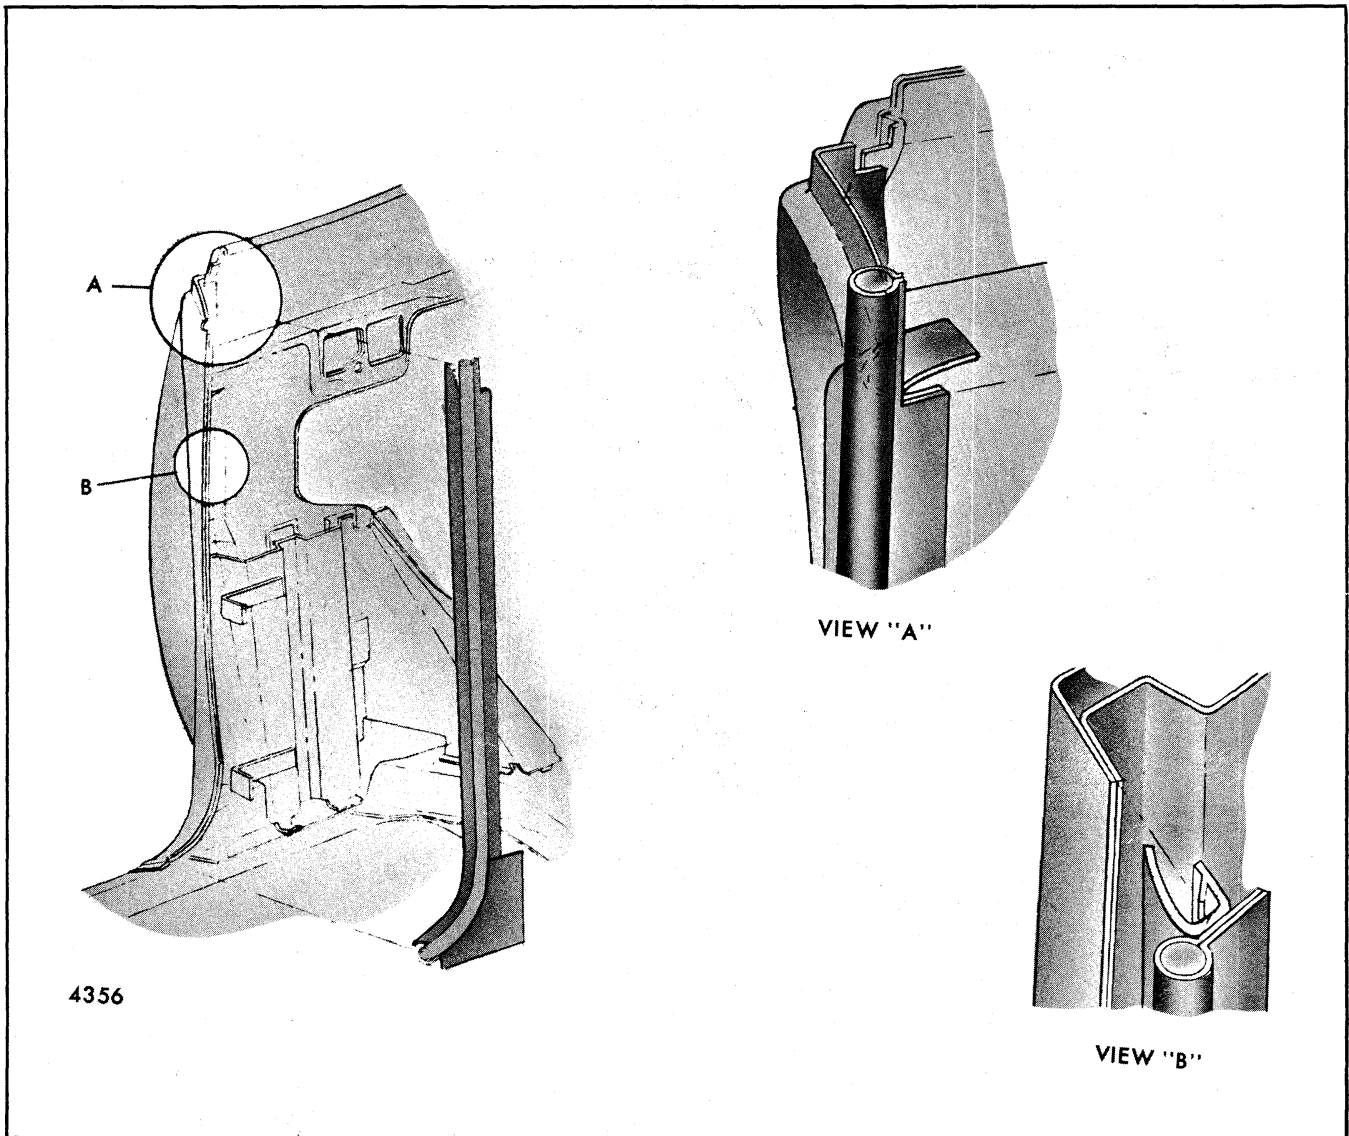

Fig. 6-21-Body Lock Pillar Windlace - "B and C" Styles
2. Pull inboard on the windlace to disengage from the lock pillar (Fig. 6-21).